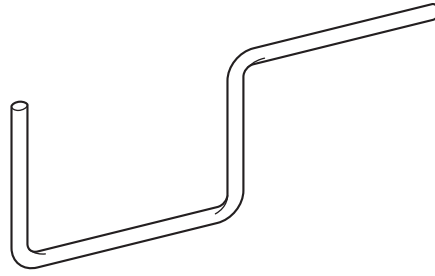

Fig. 5
- 3 Fig. 5 shows a hook manufactured from 3mm diameter mild steel rod.